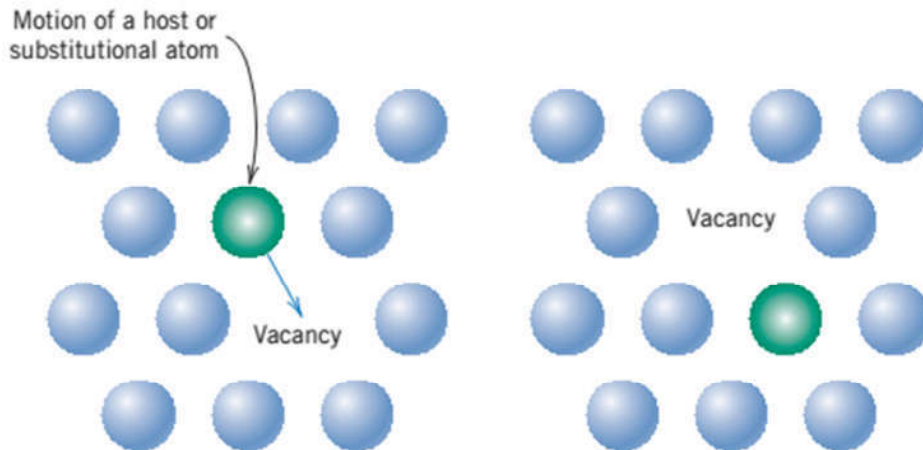

Figure 2. Mechanism of vacancies and substitutional diffusion
- 1) **Mechanism of vacancies and substitutional diffusion:** involves the interchange of an atom from a normal lattice position to an adjacent vacant lattice site or vacancy, as represented in **Fig 2**.